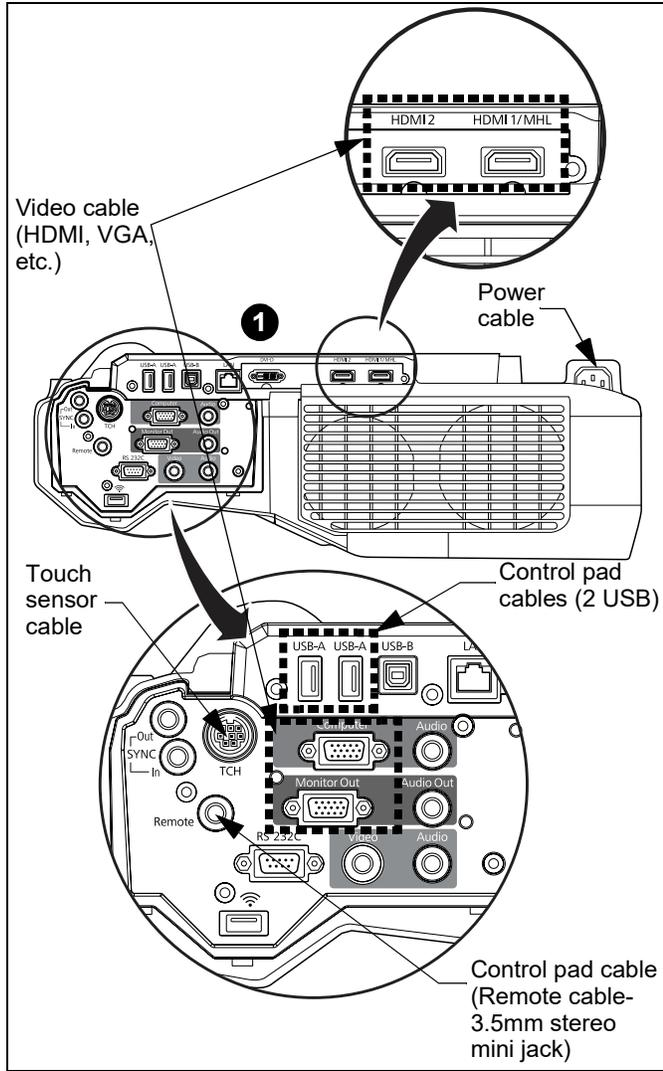

Figure 12
1. Connect power cable, video cable, Touch Sensor cable and Control Pad cables [2 USB and 1 remote cable {FF} (3.5mm stereo mini jack)] following instructions included with the projector. (See Figure 12)